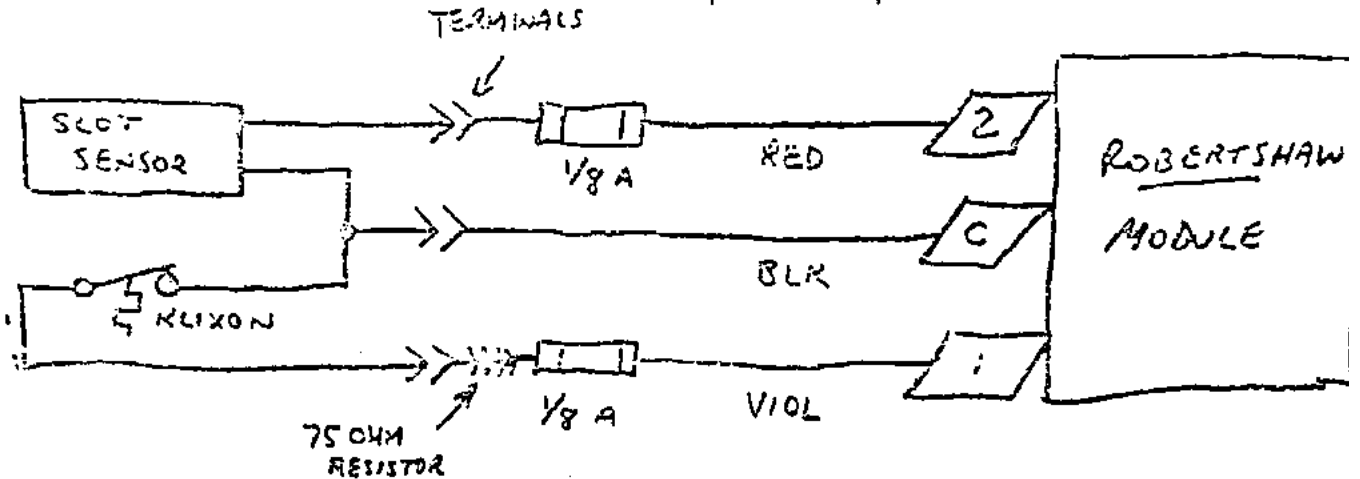

FIGURE 2 - WIRING WITH ONE SENSOR, ONE KLIXON
2.1 If end turn sensor is not usable but slot sensor is, a Klixon in series with a 75 ohm resistor can be used with the remaining sensor. A wiring diagram is shown in Figure 2. The Klixon (HH12HA105) should be attached as near as possible to the location of the end turn sensor and tied down with glass tape epoxied in place.